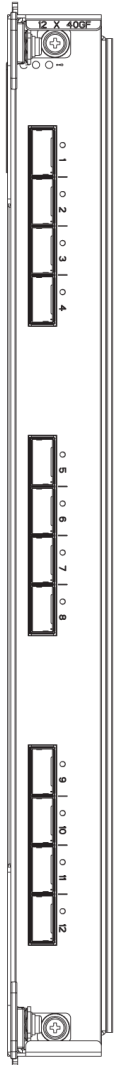

FIGURE 3 12x40G line card
- 12x40G line card module – Ports are numbered from 1 through 12 from from top to bottom when installed in the switch. Refer to Figure 3.